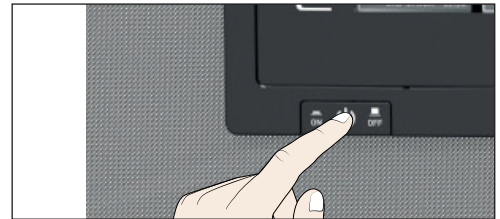

Fig. 26 Switching off the appliance
1. If there is a HEPA filter in the interior of the fan box (Additional equipment, Fig. 26) is fitted: Remove HEPA filter. It can get damaged during sterilisation.